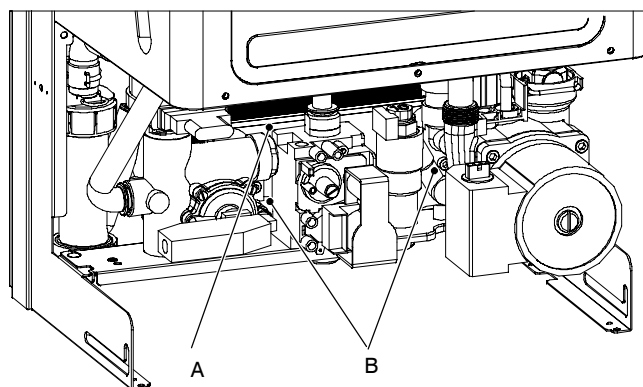

Fig. 6.3
The d.h.w. heat exchanger A in Fig. 6.1 and Fig. 6.3 allows the instantaneous transfer of heat from the primary hydraulic circuit to the water destined for d.h.w. use.
- 3 Completely unscrew the two Allen key screws B (Fig. 6.3) which hold the exchanger to the brass groups.